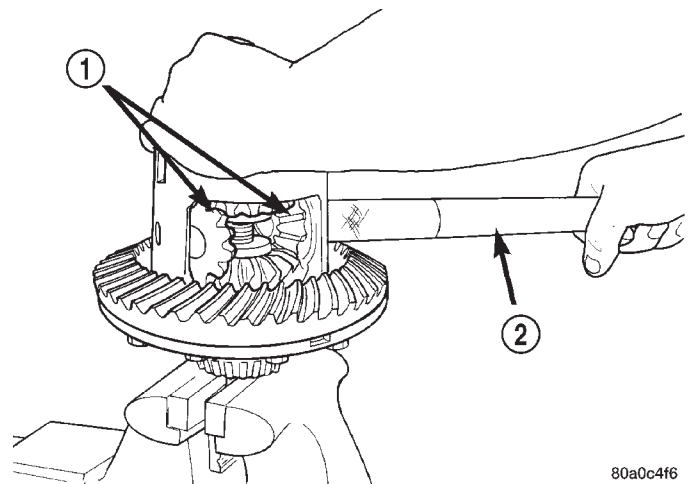

Fig. 46 Pinion Gear Removal
(11) Insert Turning Bar 6960-2 in case (Fig. 46).